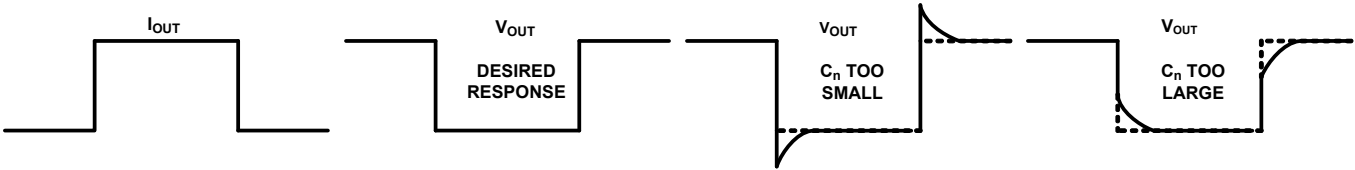

FIGURE 2. LOAD RESPONSE ADJUSTMENT
- A duty cycle of 50% or lower is recommended for the load transient. (See Figure 2)